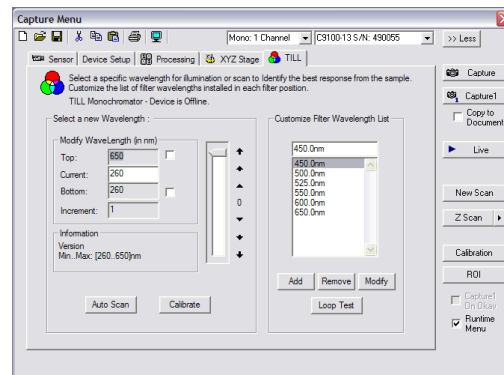

fig.4
4. To set scan limits, type the **Top/Bottom** limit and check the appropriate box (**fig.4**).